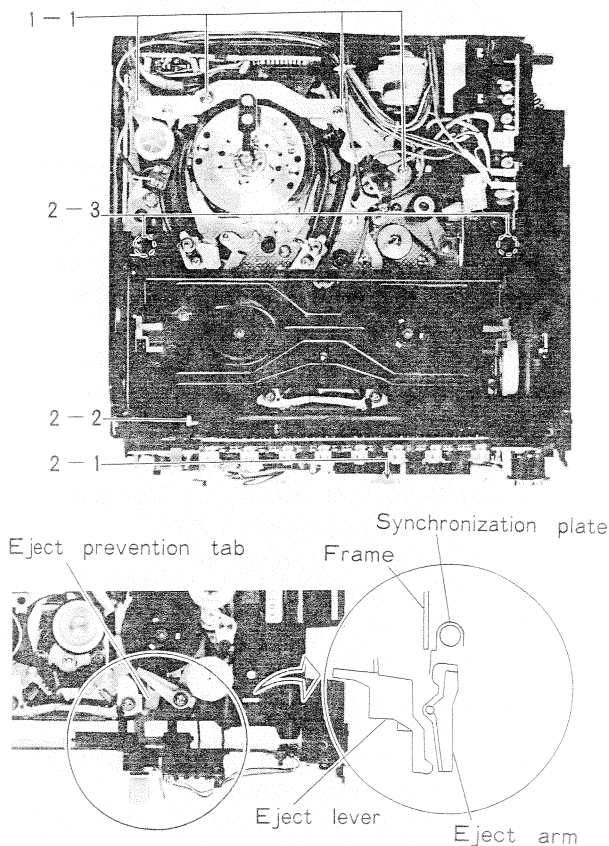

Fig. 17
1. Reinforcement plate (Fig. 17)
2. Cassette holder (Fig. 17)